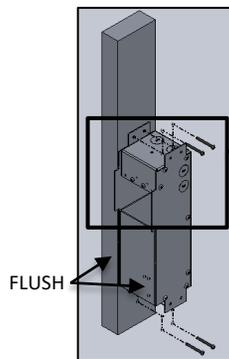

FIG. 8- J-BOX ASSEMBLY TO WALL
4. Attach RECESSED JUNCTION BOX to WALL STUD or CEILING JOIST at desired height and location before drywall is installed as shown below in FIG.8. Use appropriate anchor screws to secure to stud. **(Make sure the front of J-BOX is flush with the surface of the STUD and the large end of the BOX should face downward when mounted in the wall).**